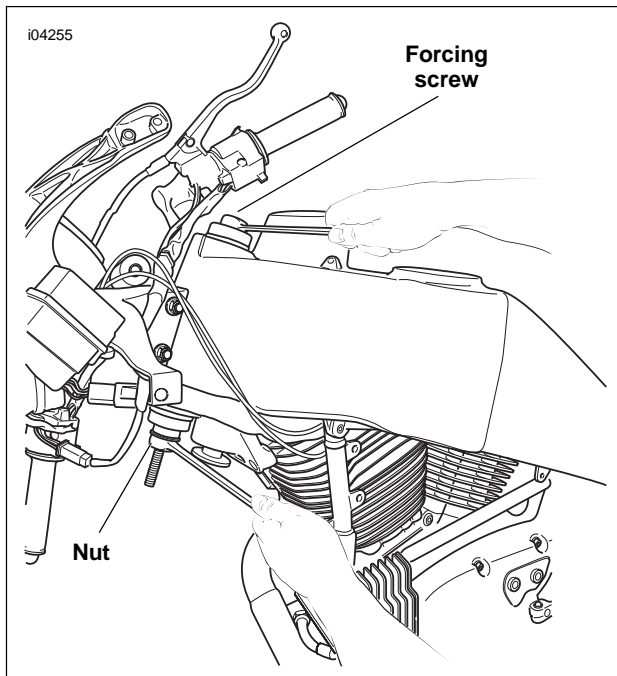

Figure 2-80. Install Bearings
6. See Figure 2-80. Hold the forcing screw while tightening the nut to draw the bearing into the steering head. Continue tightening until the bearing is fully seated.